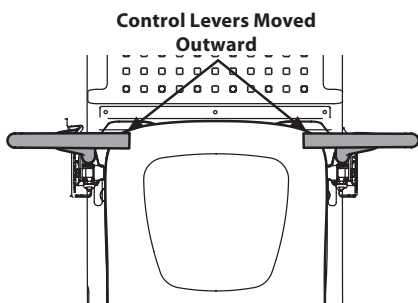

Figure 19
3. Set the lapbar drive control levers fully out (Figure 19).